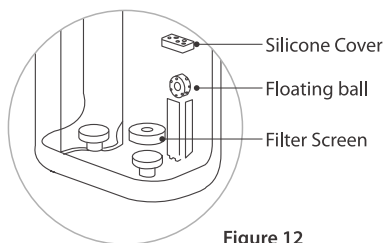

Figure 12
(1) Pull out the silicone cover of the floating ball and then take out the floating ball. **(Figure 12)**
(2) Pull out the filter screen in the same direction, as shown in the figure. **(Figure 12)**